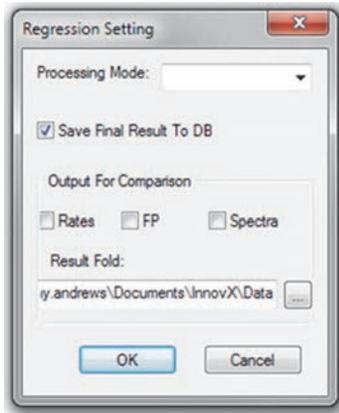

Figure 8-10 The Regression Setting dialog box
8. Select **Save Final Result to DB** (see Figure 8-10 on page 112).